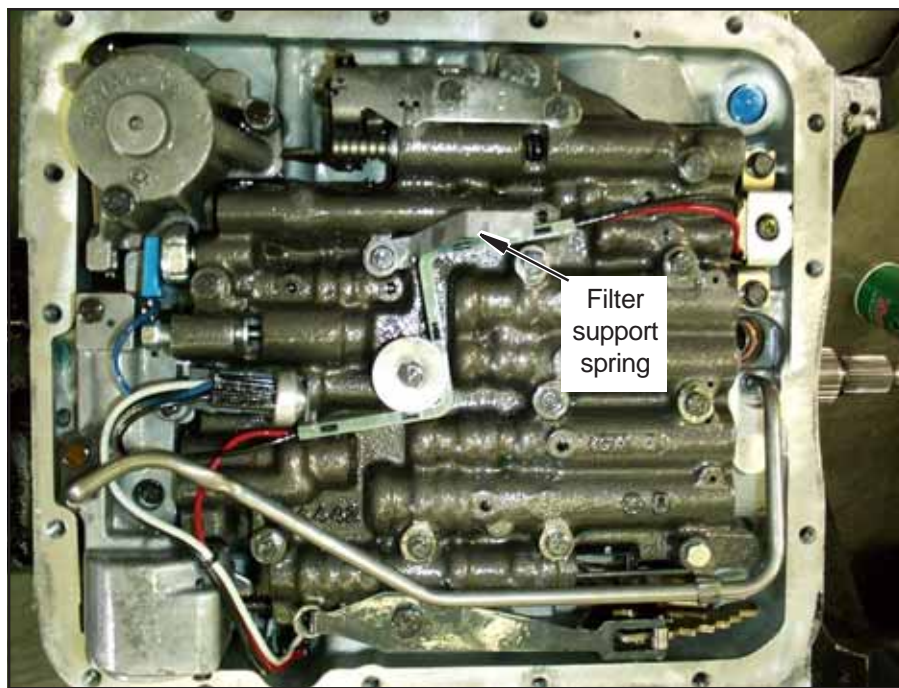
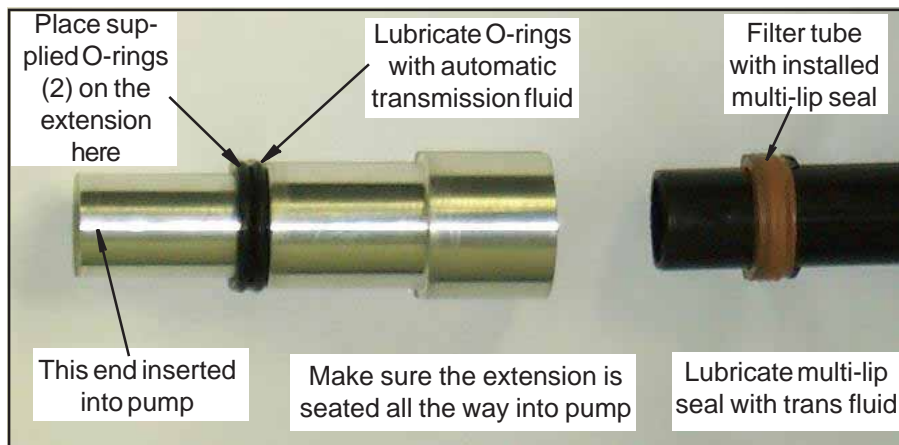

Figure 1
Figure 2
STEP 3. The stock filter is supported by a small spring located at the approximate center of the valve body. **See Figure 1.** This spring must be replaced with the longer spring supplied with the oil pan. Remove the bolt shown in **Figure 1**, take off the spring, install the B&M spring and the bolt. Tighten the bolt to 100 in.-lbs. Do not overtighten. **STEP 4.** Install the supplied o-rings on the extension tube supplied with the pan. **See Figure 2.** This pan should be installed with a new filter. It is recommended to use the TH-700R4 filter with the pre-installed multi-lip seal to prevent air leaks. Lubricate the seal on the filter and the o-rings with transmission fluid. Place the extension tube on the new oil filter. Install the assembly into the oil pump bore.